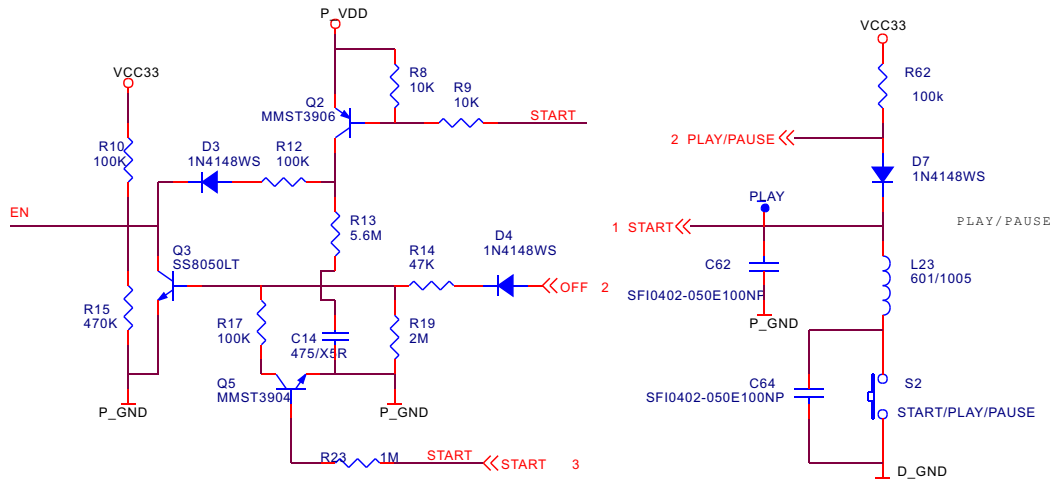

Figure 3.2.12.1 ON/OFF control circuit schematic diagram
1. ON/OFF control circuit schematic diagram of X21 (RU) is shown in the figure 3.2.12.1: